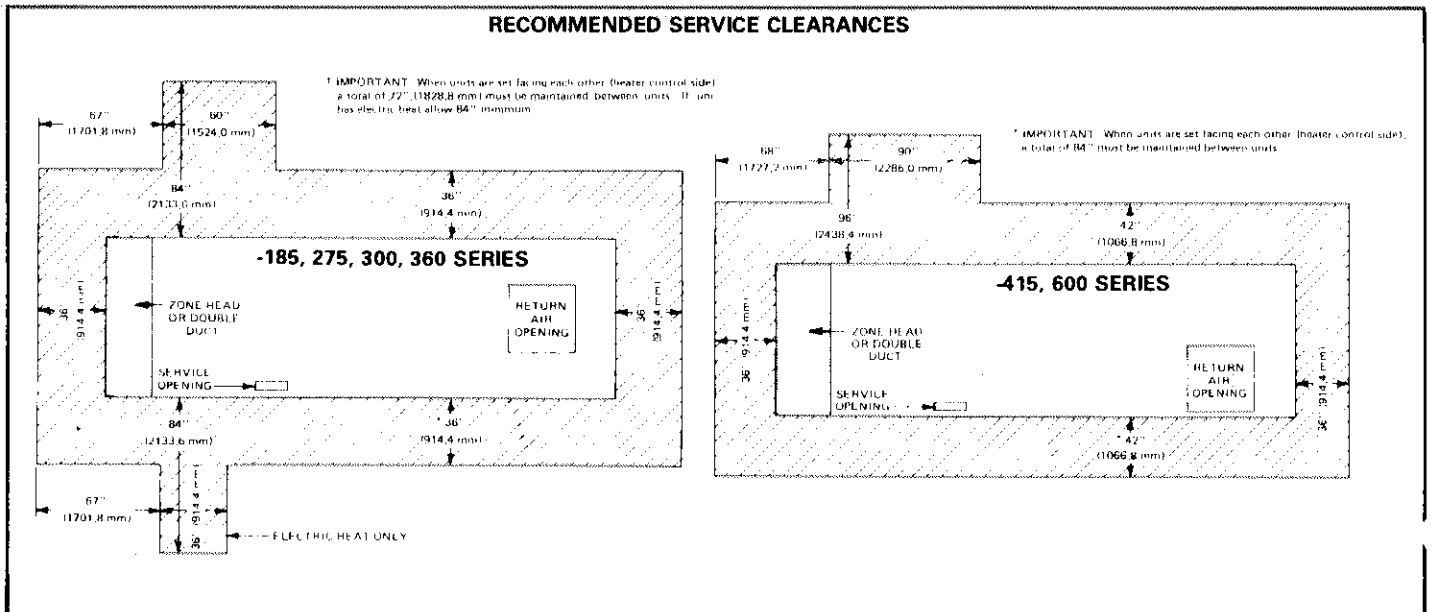

FIGURE 3
- 6 - Refer to Figure 3 for service clearance requirements.